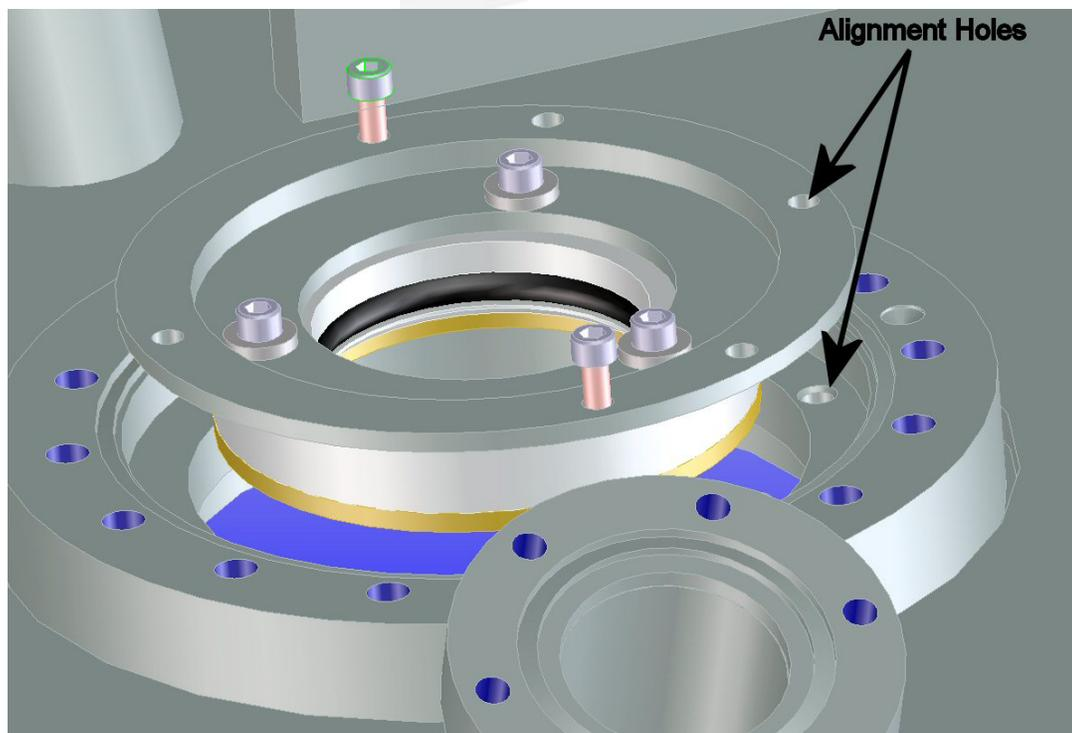

Figure 14. Align the two alignment holes – one in the inner flange and the other in the lid flange – before replacing the inner flange.
7. Replace the inner (sample transfer tube) flange by first aligning the two alignment holes (see Figure 14). Gently rotate the flange while pushing down until it is seated. Replace the three fasteners (removing the two in the jacking screw holes)